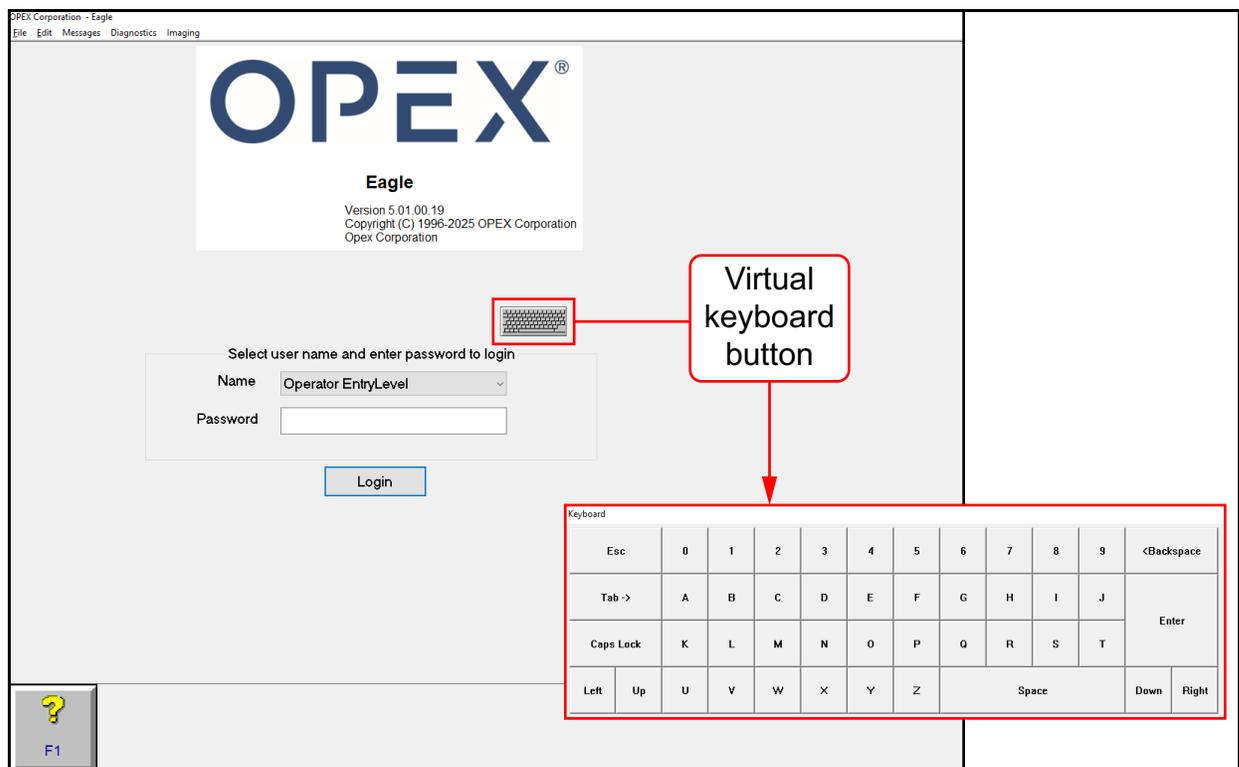

Figure 3-2: Login screen and virtual keyboard
3. Select your user name from the Name dropdown list, then enter your password using either the keyboard in the operator station or the on-screen "Virtual Keyboard" (Figure 3-2).